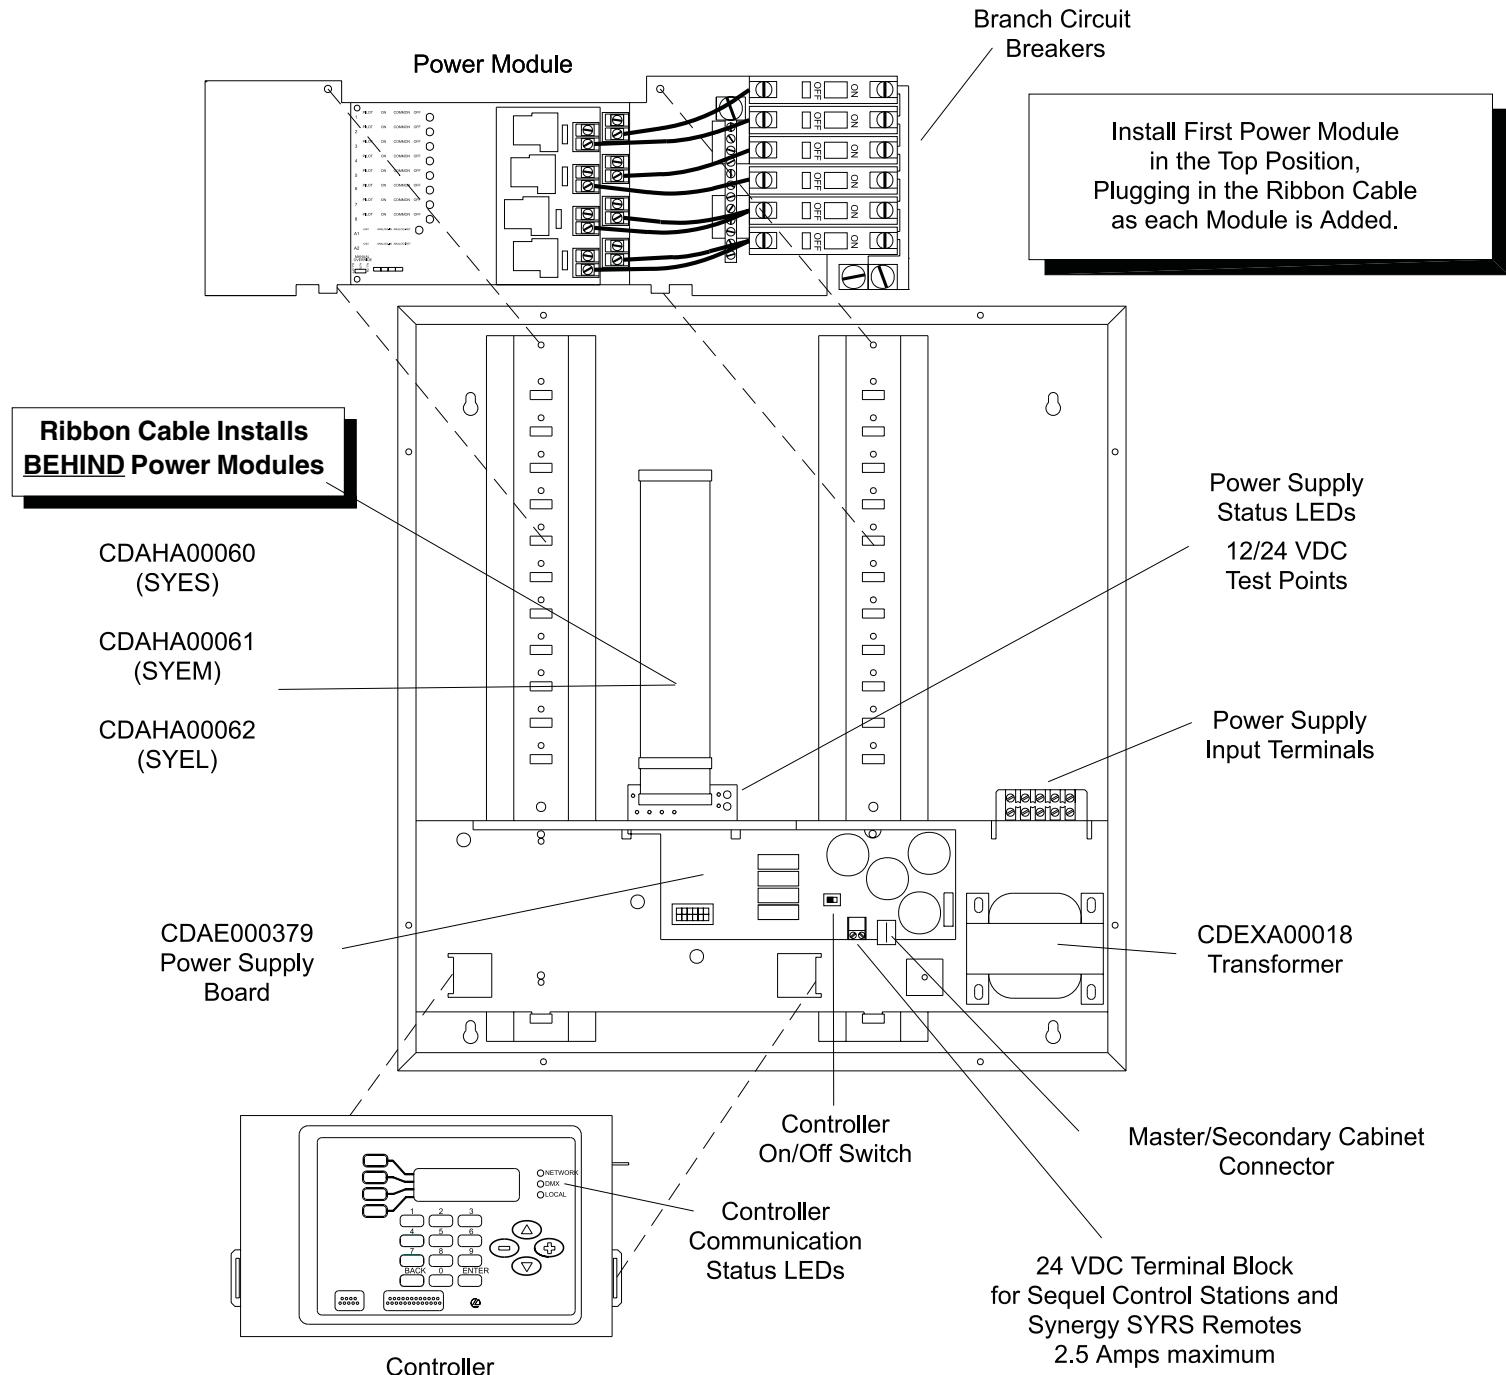

Figure 5 - Part Number and Voltage Test Point Reference Information
2. The power supply input should remain un-powered until the power modules are installed and terminated. The controller "on/off" switch should remain in the "off" position until the controller is installed. See *Figure 5*.